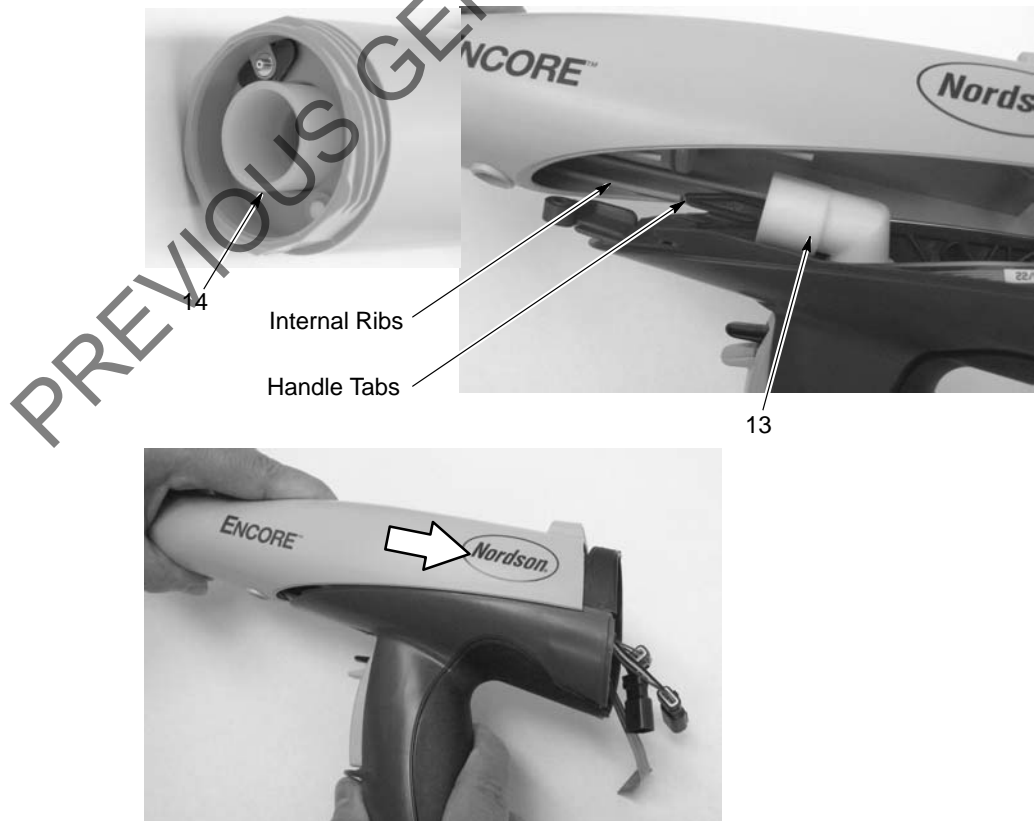

Figure 13 Outlet Powder Tube, Elbow, and Gun Body Installation
11. See Figure 13. Insert the outlet tube (14) with O-rings installed through the front of the gun body until the end is even with the end of the gun body.
12. Make sure the O-ring is installed in the groove on the inlet powder tube. Install the elbow (13) onto the end of the inlet tube.
15. See Figure 13. Use your finger or a wooden dowel to align the inside end of the powder tube with the elbow then push on the tube to seat it in the elbow.